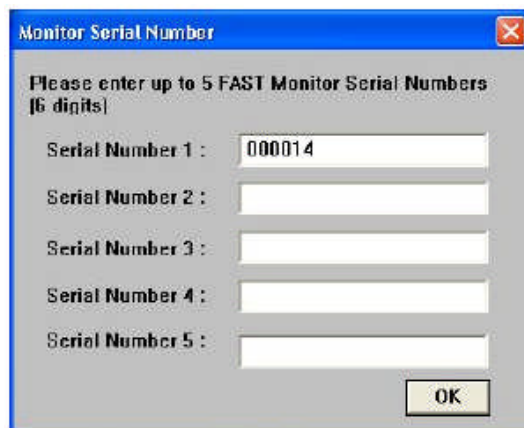

Figure 9: FAST Monitor S/N
- 4) Enter the FAST serial number as shown in Figure 9.